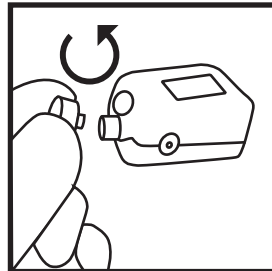

Fig. 2
3. Remove cap (refer to Fig. 2).